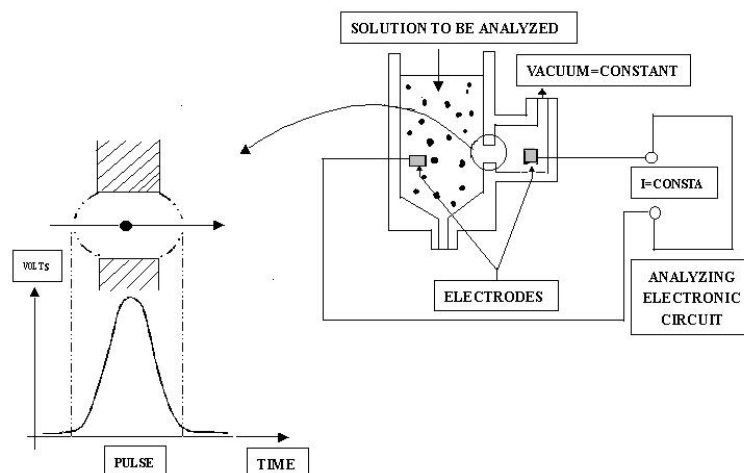

Figure 1-5
- When cells pass through the aperture, the resistance between the electrode increases as the cell volume increasing, as shown in figure1-5. According to the Ohm formulary: $U=RI$ (U =Voltage I =Current R =Resistance), If I is a constant, U increase as the cell volume increasing.
- Passing through the magnification circuit, the voltage signal will be magnified and the noise will be filtered, then you will gain the analytical results, as shown in figure 1-5.